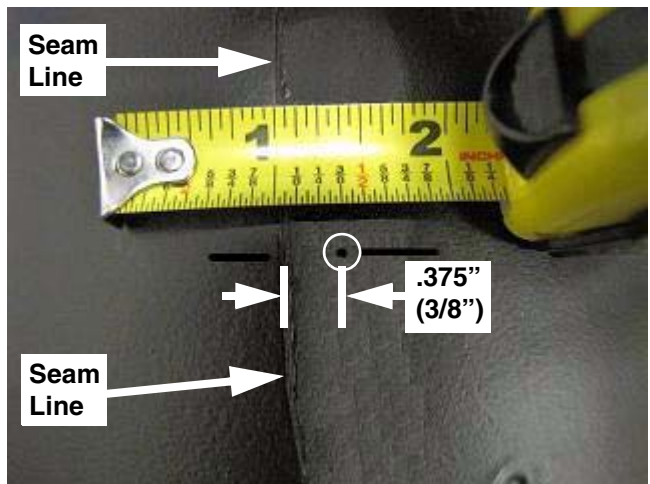

FIGURE 7
9. Measure 3/8" to the right of the seam line and make a mark. This will be the location to drill the 9/32" hole. See Figure 7.